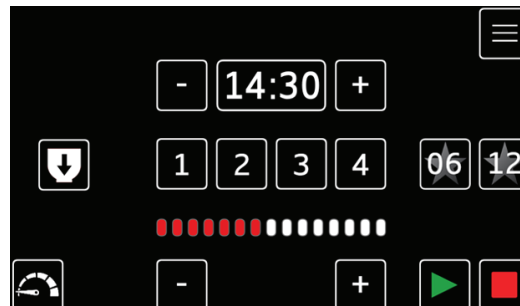

Figure 14-1.
1. Select the main menu button in the top right corner of the display screen to access the recipes, operating log, settings or operating instructions. (Figure 14-1).
1. Select the “menu” button. (Figure 14-1).